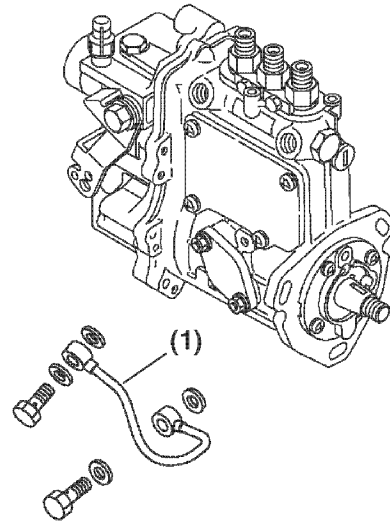

Figure 7-20
11. Reinstall the lube oil line (Figure 7-20, (1)).